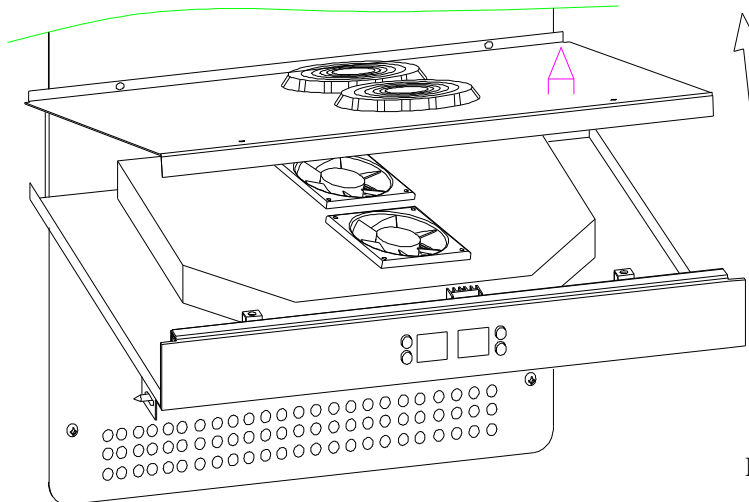
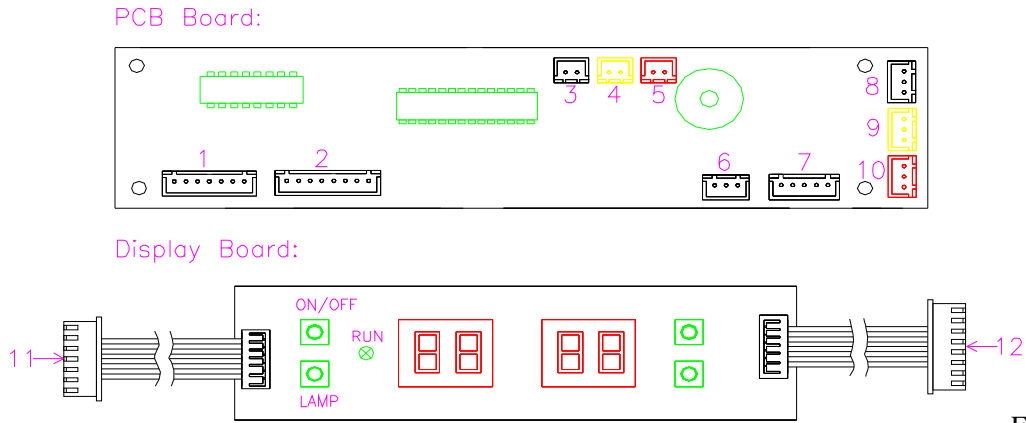

Fig.14
Fig.15
b. Remove the the upper cover of middle air duct board(A)(Fig.14) ;then unplug all connectors from the control panel, The connections of the control boards are as per(Fig.15).